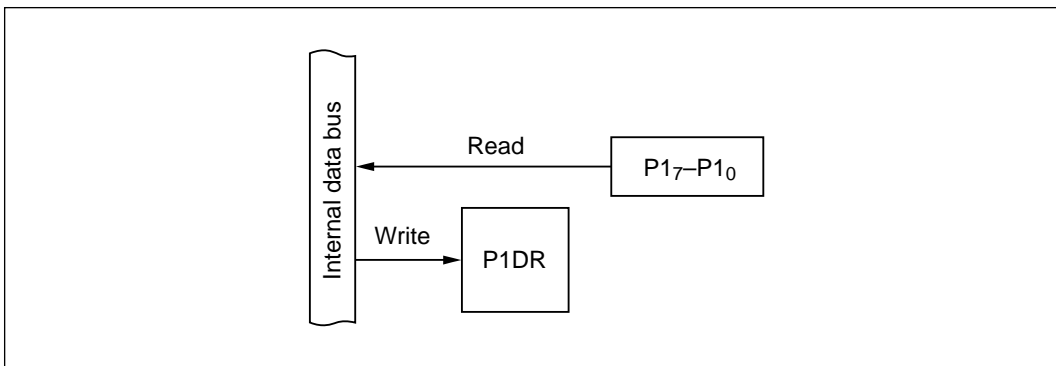

Figure 10-6 Input Port (Mode 7)
(2) Input Port (Mode 7): Figure 10-6 shows a block diagram illustrating the general-purpose input function. Table 10-5 indicates register read/write data. Values written in the port 1 data register (P1DR) have no effect on general-purpose input lines. When read, P1DR returns the value at the pin.